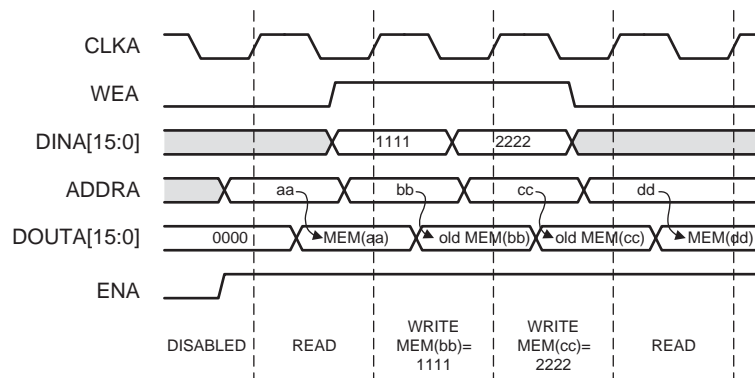

Figure 27: Read First Mode Example
- Read First Mode:** In READ_FIRST mode, data previously stored at the Write address appears on the data output, while the input data is being stored in memory. This Read-before-Write behavior is illustrated in Figure 27.